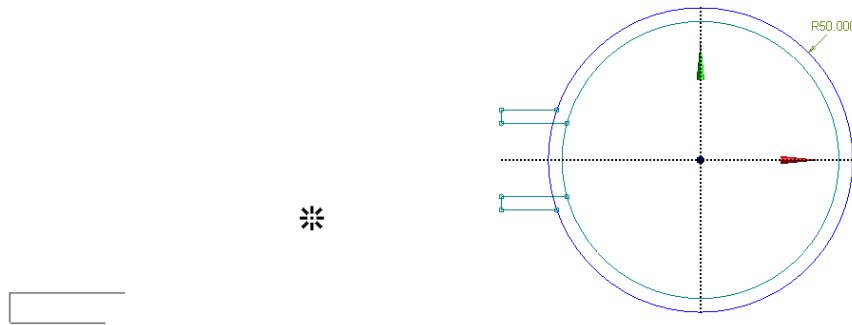

Figure 3-95 Preview of the entities to be replicated after flipping them vertically
30. Move the paste handle to the origin and click when the symbol of Coincident Point constraint (P) is displayed, refer to Figure 3-95; the mirror copies of the selected entities are replicated at their required locations, refer to Figure 3-96.